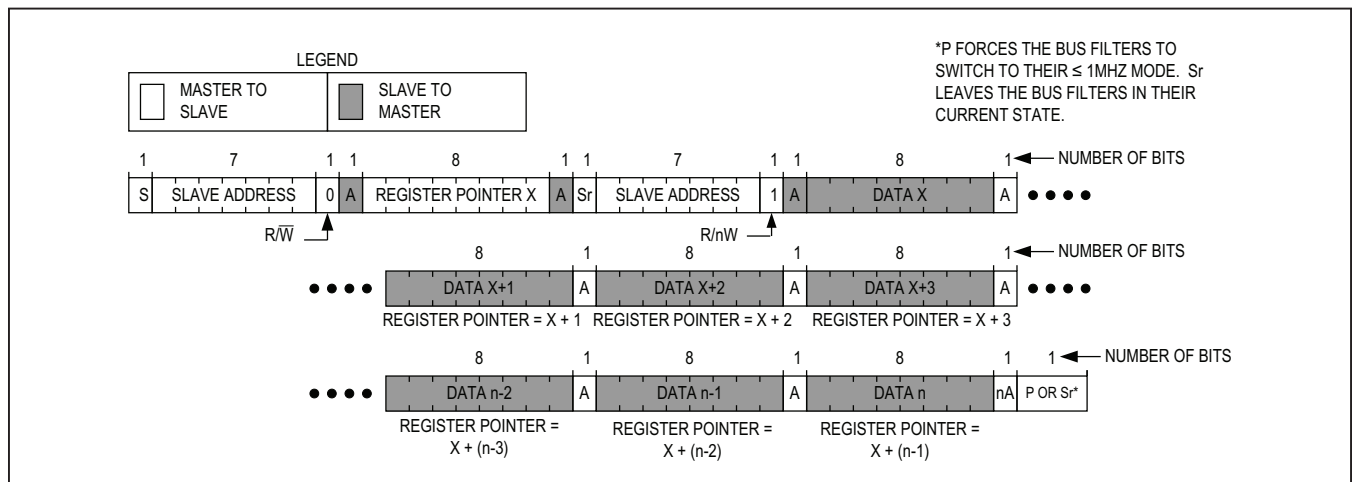

Figure 13. Reading Continuously from Sequential Registers X to N
Figure 13 shows the protocol for reading from sequential registers. This protocol is similar to the read byte protocol except the master issues an ACKNOWLEDGE (A) to